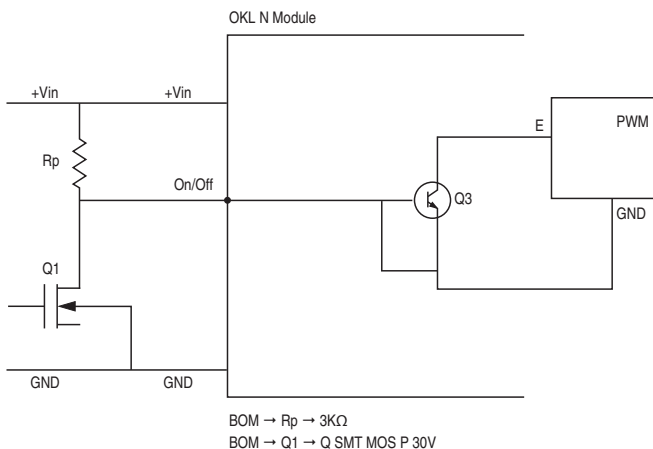

Figure 7. On/Off Circuit Control for Using Negative On/Off Logic
**Negative**—Units are enabled when the ON/Off is open or brought to within a low voltage (see specifications) with respect to –Vin. The unit is off when the ON/Off is pulled high with respect to –Vin (see specifications). The On/Off circuitry is shown in figure 7. The On/Off pin should be pulled high with an external pull-up resistor (3KΩ). When Q1 is in the off state, the On/Off pin is pulled high, transistor Q3 is turn on and the unit is off. To turn on the unit, Q1 is turn on, pulling the On/Off pin low and turning Q3 off resulting on the unit being on.